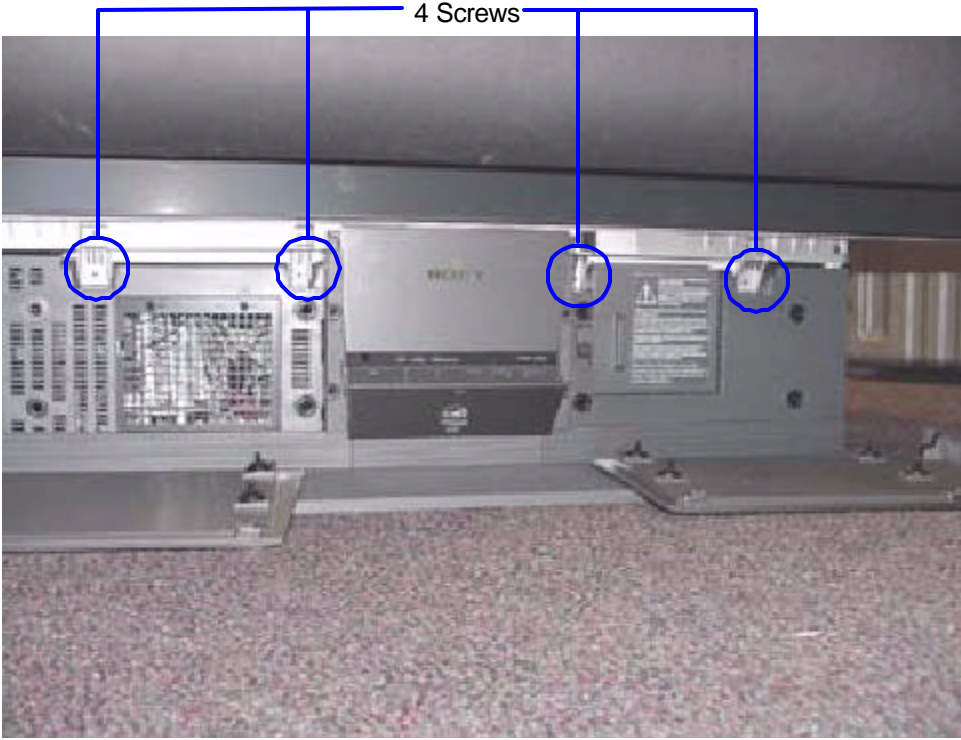

FIGURE 23-3 - REMOVE THE TOP FOUR SCREWS
f. From the front, remove the remaining four screws (Figure 23-3).